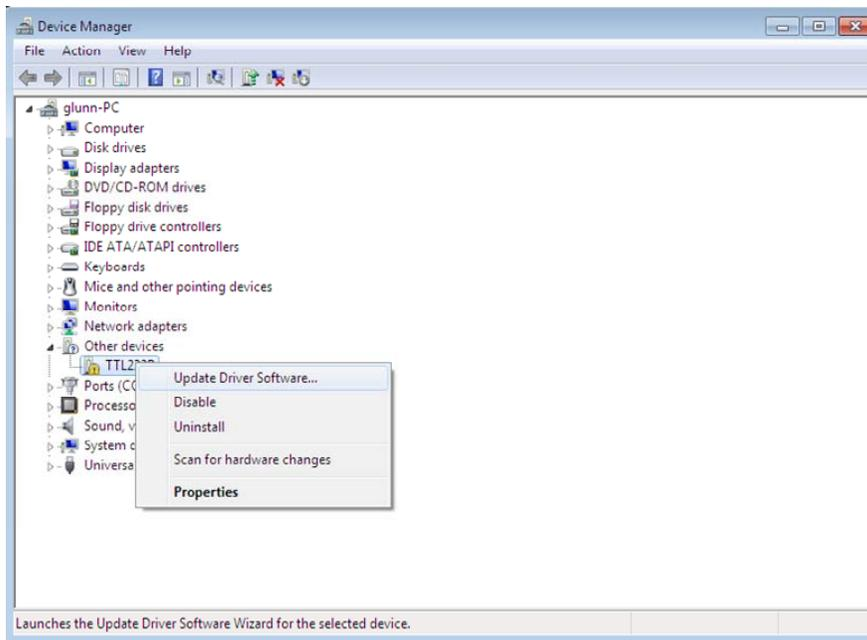

Figure 2
3. Right click on the other devices (TTL232R in this example) to bring up the menu as shown in Figure 2.
Select "Update Driver Software" shown in Figure 2.